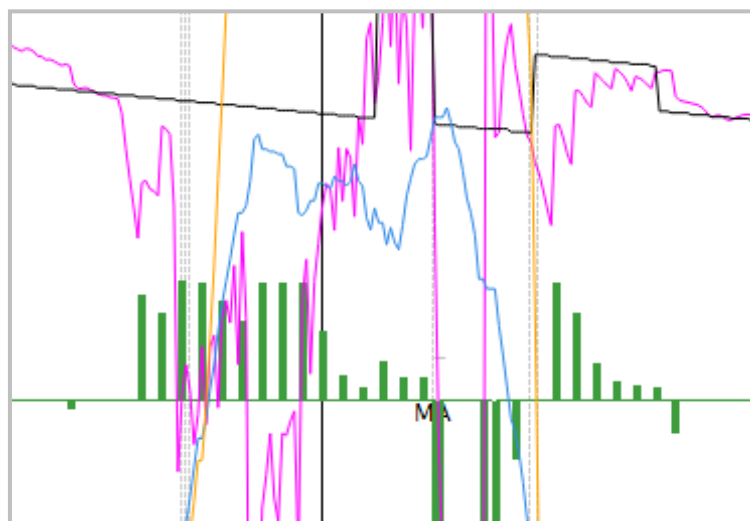

Figure 6. Example of low pot resistance (magenta curve) despite numerous up orders (green bars).
- The second case happened because of mistakes in setting the PCS system parameters. The parameter used to detect a potline shutdown was set too high. During a potline shutdown, some pots did not detect the shutdown, so the Potmicro kept adjusting the pot resistance (Figure 6). Because of the low pot voltage, the Potmicro gave numerous up orders during the potline shutdown. As a result, several pots had anodes almost out of the bath when the potline was about to be restarted.